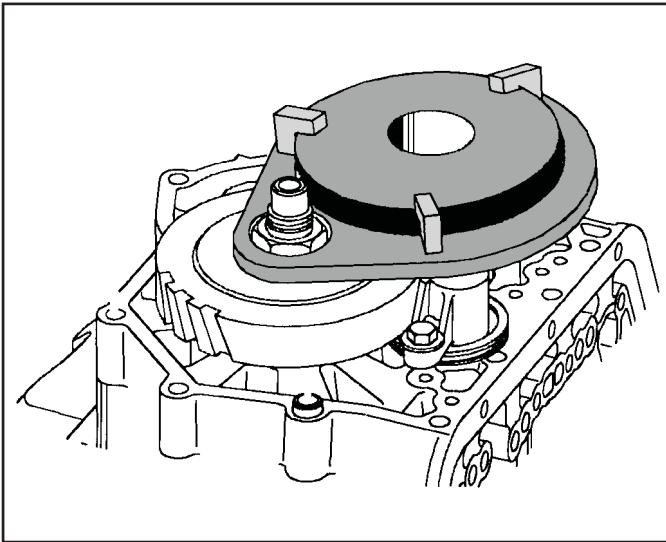

Figure 207
37. Install the main shaft holding tool fixture SA9119T or equivalent (See Figure 207).